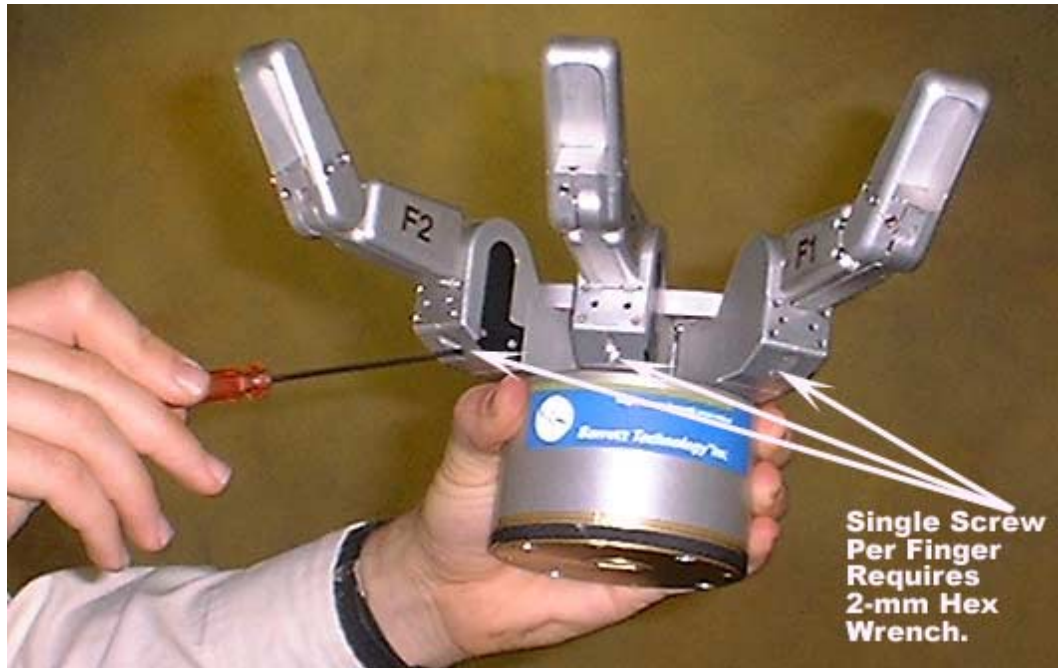

Figure 12 - Finger Attachment-Screw Location
3. Locate and remove the finger attachment shoulder screw that holds the finger to its motor housing. The screw location is shown in Figure 12.
9. Insert and tighten the finger attachment shoulder screw to retain the finger in place, as shown in Figure 12. Check the connection to the motor housing to be sure all gaps are closed.